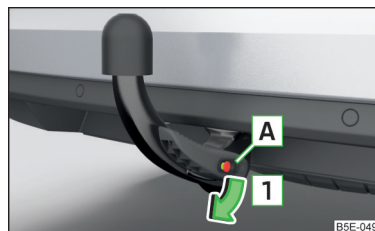

Fig. 186
- Remove the cover [A] from the lock in the direction of the arrow [1] » Fig. 186.